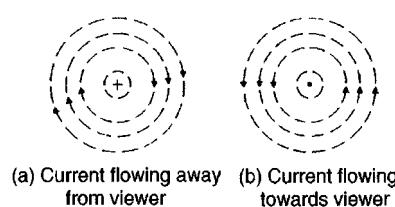
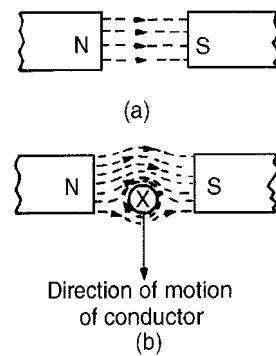

Figure 8.3
Figure 8.13
When dealing with magnetic fields formed by electric current it is usual to portray the effect as shown in Fig. 8.3. The convention adopted is:
- Current flowing away from the viewer, i.e. into the paper, is indicated by \oplus . This may be thought of as the feathered end of the shaft of an arrow. See Fig. 8.3(a).
- Current flowing towards the viewer, i.e. out of the paper, is indicated by \ominus . This may be thought of as the point of an arrow. See Fig. 8.3(b).
For example, with current flowing away from the viewer (Fig. 8.3(a)) a right-hand thread screw driven into the paper has to be rotated clockwise. Hence the direction of the magnetic field is clockwise.
If the current-carrying conductor shown in Fig. 8.3 (a) is placed in the magnetic field shown in Fig. 8.13(a), then the two fields interact and cause a force to be exerted on the conductor as shown in Fig. 8.13(b). The field is strengthened above the conductor and weakened below, thus tending to move the conductor downwards. This is the basic principle of operation of the electric motor (see Section 8.4) and the moving-coil instrument (see Section 8.5)